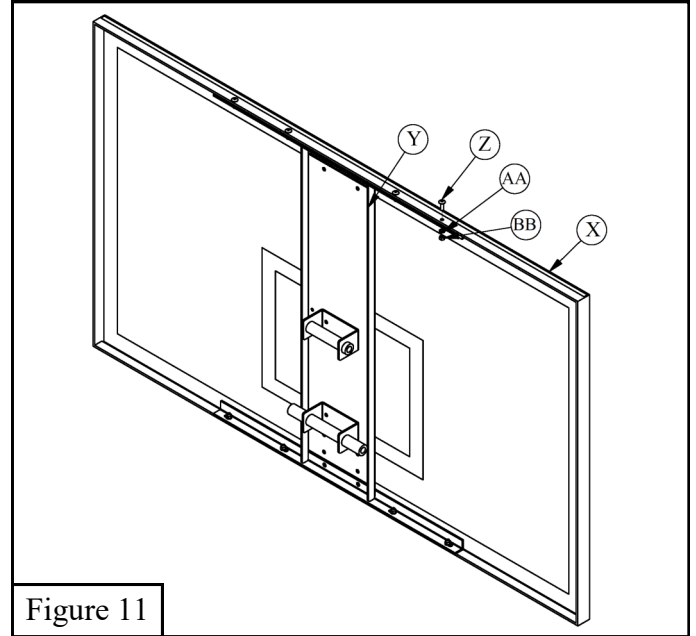

Figure 11
1. Use the 5/16" X 1" Machine Screws (Z), 5/16" Lock Washers (AA) and 5/16" Hex Nuts (BB) to install Backboard H-Frame (Y) to Backboard (X). See Figure 11.
2. Once Backboard (X) is assembled refer to instruction 12 to complete system assembly.